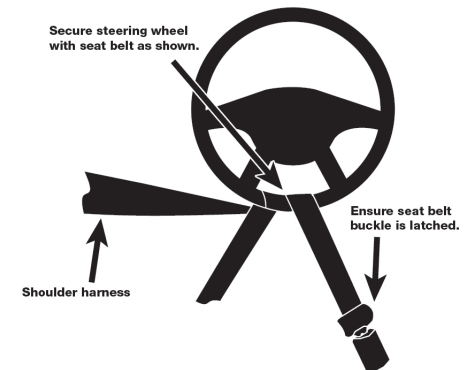

Figure 10
8. The vehicle-in-tow steering wheel **must be locked or restrained**, with front tires straight ahead. If the vehicle is not equipped with locking steering column, the steering wheel will have to be tied securely. Steering wheel can be secured by wrapping the driver seat belt around the steering wheel bottom rim, then removing slack from seat belt and connecting latch to buckle. (Figure 10) Seat belt slack can also be removed by adjusting the driver's seat rearward.